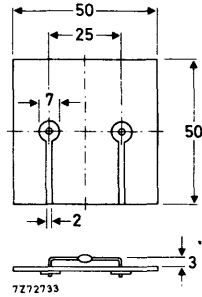

Fig. 4 Mounting method 3.
3. Thermal resistance from junction to ambient when mounted on a 1,5 mm thick epoxy-glass printed-circuit board; Cu-thickness ≥ 40 μ m; Fig. 4